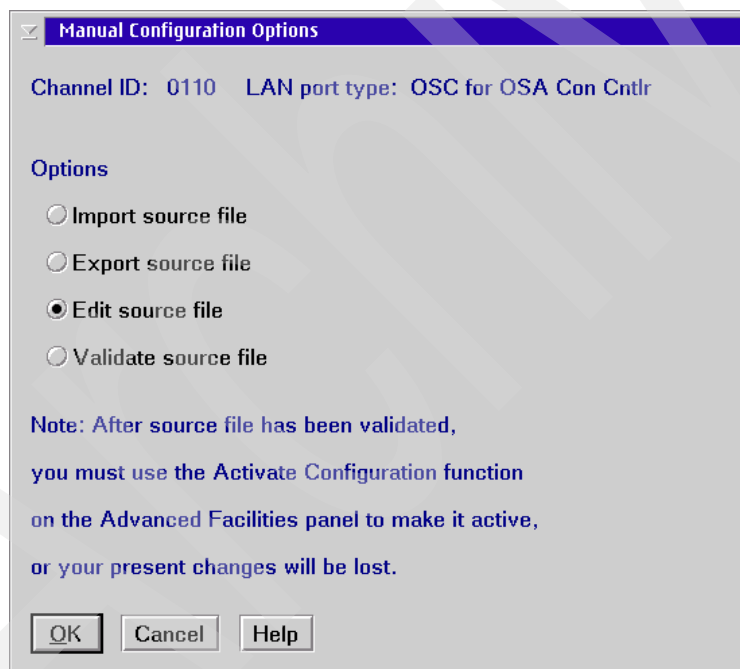

Figure 3-15 Manual configuration options
1. Starting with the Advanced Facilities panel, click **Manual configuration options** and **OK**. The Manual Configuration Options panel is displayed (see Figure 3-15).